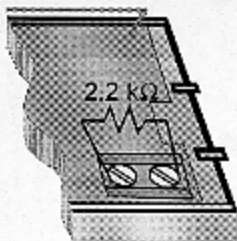

Figure 5 - EOL Resistor Connection
- If the external contacts will not be used, connect a 2.2 kΩ EOL resistor across the terminals (see Figure 5).